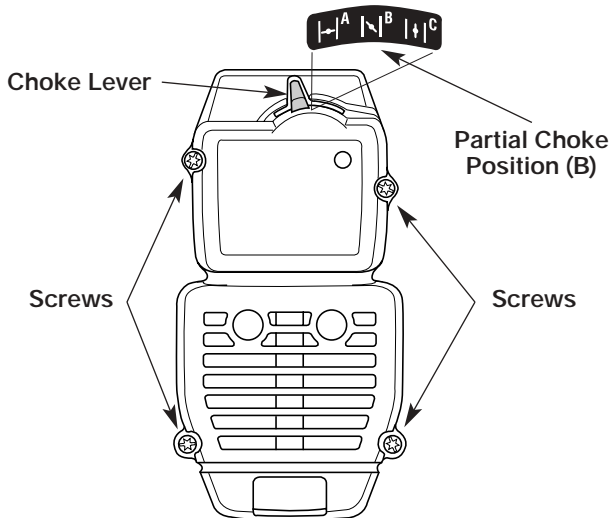

Fig. 20
2. Remove the four (4) screws securing the air filter/muffler cover (Fig. 20). Use a flat blade or T-20 Torx bit screwdriver.
2. Insert the four (4) screws into the holes in the air filter/muffler cover (Fig. 20) and tighten.